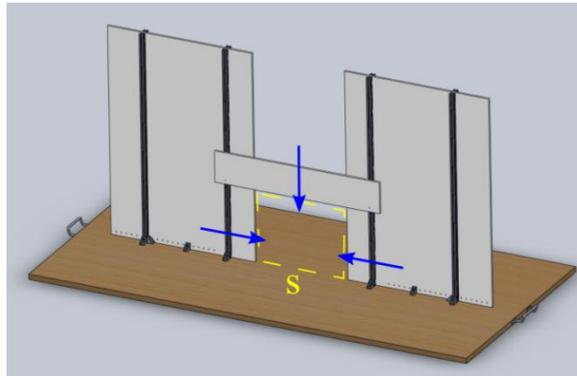

FIGURE 3: WALL TILE. BY MOVING THE PANELS, THE APERTURE WILL BE REDUCED TO MATCH ROBOT DIMENSIONS.
- Task 2: The wall tile is made of three rigid PVC elements which can be moved to reduce the aperture dimensions, see Figure 3. Approximately, the aperture will be a square of side  $s$ , where  $s$  should be decided by teams as follow.